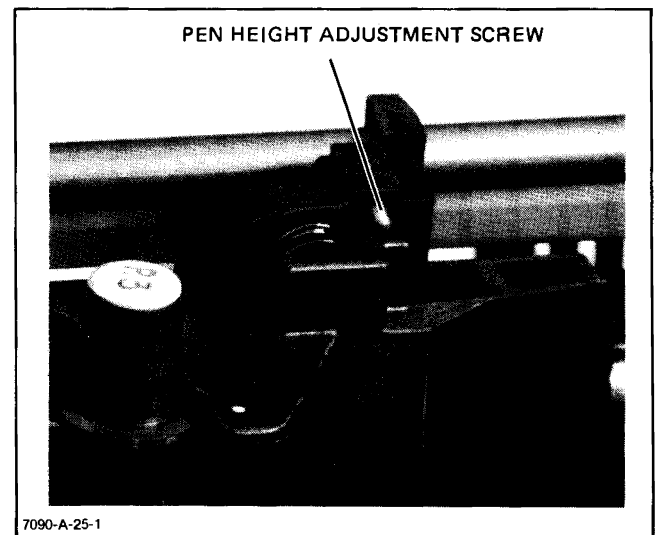

Figure 3-3. Pen Height Adjustment
- e. To adjust pen height, insert a 0.050 in. Allen wrench through hole at rear of pen carriage. Turn clockwise to decrease height and counter-clockwise to increase pen height. See Figure 3-3.